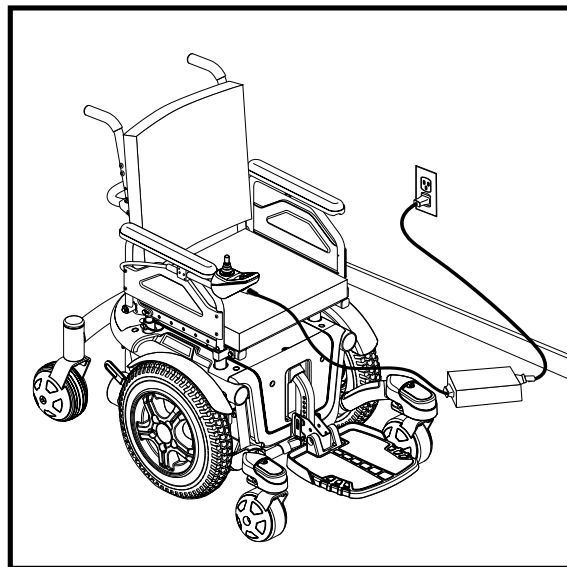

Figure 21. Battery Charging
1. Position the front of your power chair next to a standard electrical outlet. See figure 21.